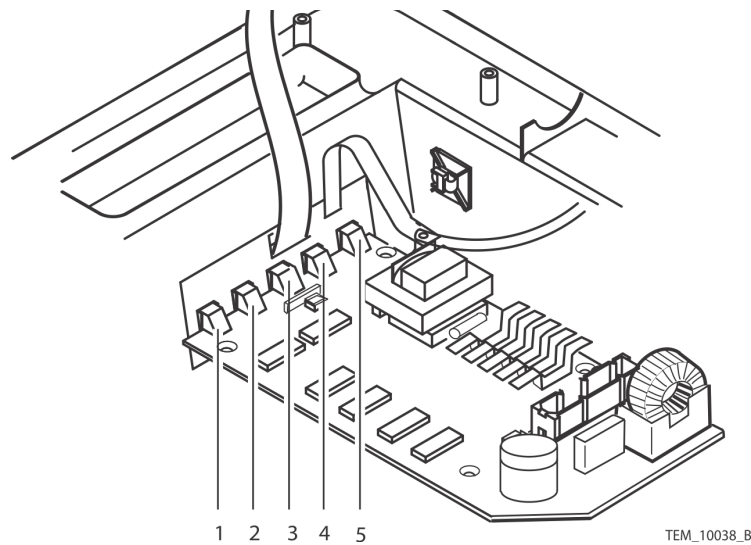

Figure 34. Control PCB Lights
Carefully align the lights on the Control PCB with the control panel key pad push buttons. Failure to do so could damage the key pad or the Control PCB lights. See Figure 34, items 1-5.